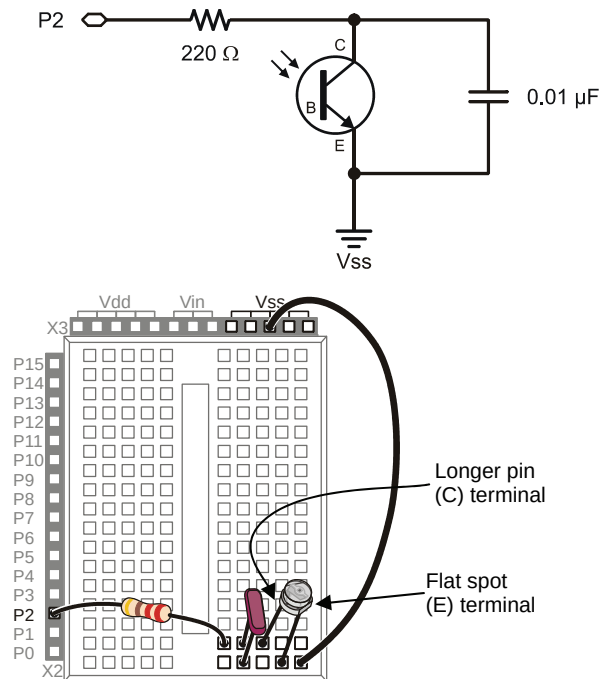

Figure 7-4
Figure 7-4 shows a schematic and wiring diagram of the RC-time circuit you will use in this chapter. This circuit is different from the potentiometer circuit from Chapter 5, Activity #3 in two ways. First, the I/O pin used to measure the decay time is different (P2). Second, the potentiometer has been replaced with a phototransistor.
- ✓ Build the circuit shown in Figure 7-4.
- ✓ Before you move on to the next activity, return the circuit to the original one shown in Figure 7-4 by removing the 0.1 μF capacitor and replacing it with the 0.01 μF capacitor.